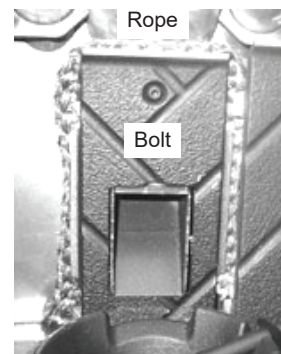

Figure 28.6
4. Add new center brick and taking care not to cross thread the bolt; reinstall brick (**Figure 28.6**).